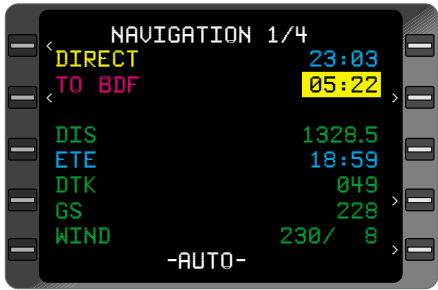

Figure 3-186
- Line Select Key - DEPRESS to position the cursor over the **ETA** field. (Figure 3-186)